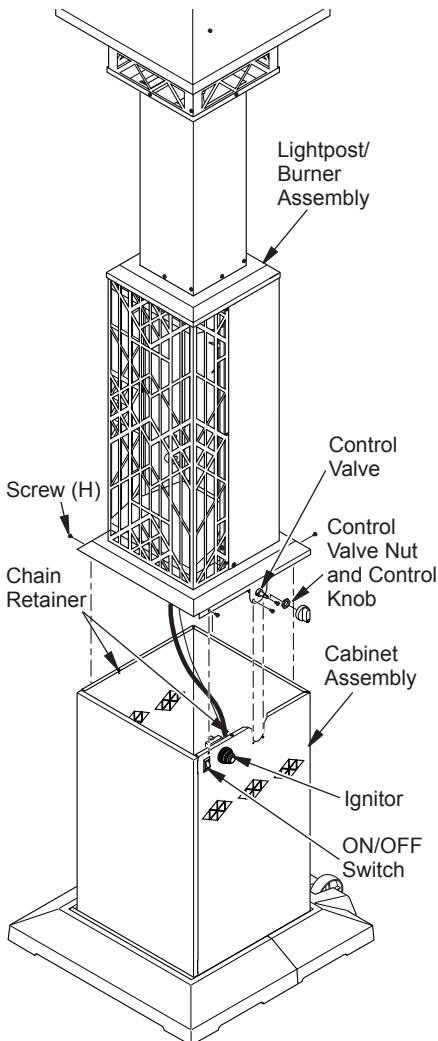
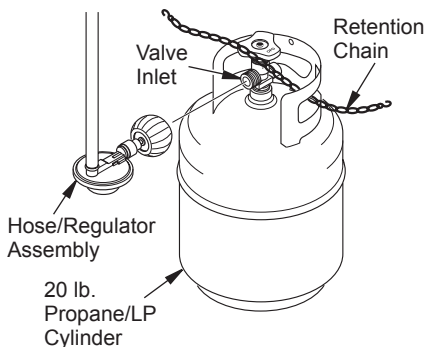

Figure 8 - Attaching Lightpost/Burner Assembly to Cabinet Assembly
Figure 9 - Connecting Hose/Regulator Assembly to Propane/LP Cylinder
1. Place entire lightpost assembly on top of cabinet base assembly. Attach with 4 screws (H) as shown in Figure 8. Install 2 screws (H) into holes on each side of control valve. Attach control valve nut and control knob to control valve.
Use only a 20 lb. propane/LP cylinder (not included). See safety information for proper cylinder selection. Connect the hose/regulator assembly to the cylinder (see Figure 9). The hose should already be connected to the heater. Connect hose to the valve inlet (see Figure 9). Tighten firmly using a wrench.
Route retention chain through at least one of the handles of the propane/LP tank (see Figure 9). Make sure to route chain through handle on tank and NOT around tank valve. Chain must not interfere with valve. Attach hooks on both ends of chains to chain retainers installed on cabinet base (see Figure 8).